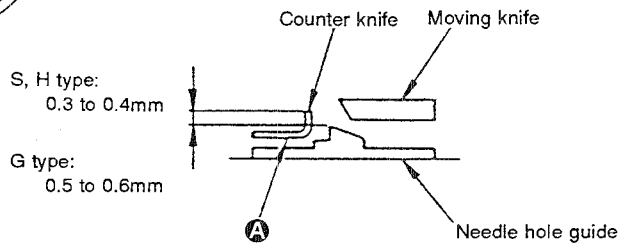

Fig. 5-14-2
- A. If the height of the needle hole guide with respect to the counter knife blade is not within 0.3 to 0.4 for S or H type model of sewing machine or 0.5 to 0.6 mm for G type one, pry portion **A** (Fig. 5-14-2) out using a screwdriver or the like to adjust the height of the needle hole guide with respect to the counter knife blade to the correct height. (At this time, make sure that the blade point is in parallel to the throat plate mounting surface.)